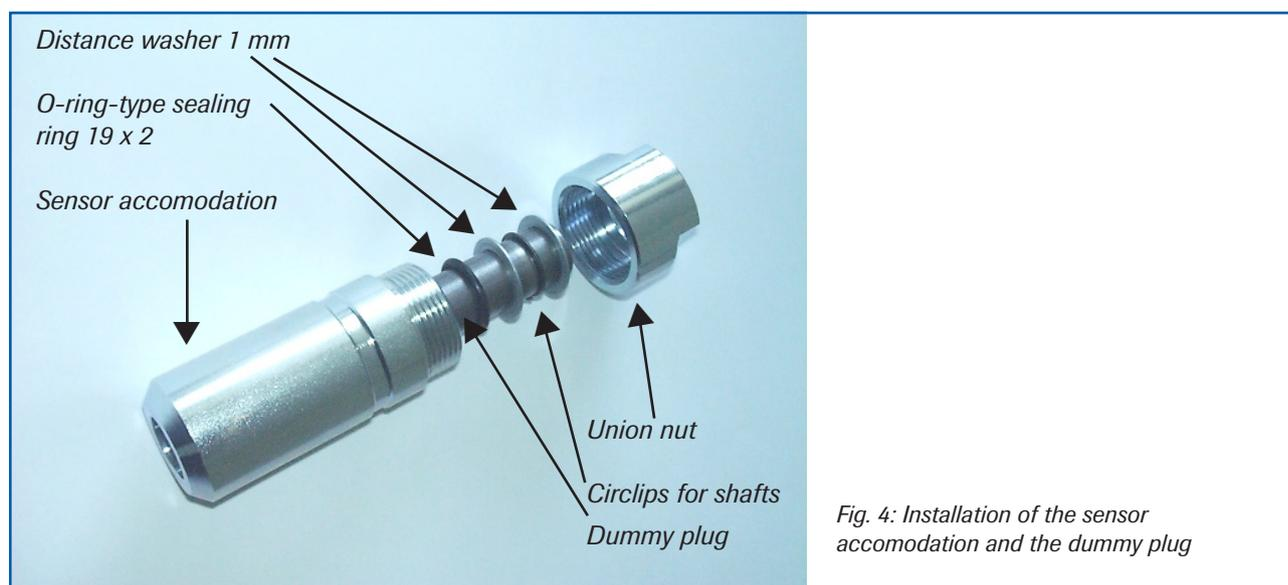

Fig. 4: Installation of the sensor accommodation and the dummy plug
- If the sensor is not installed immediately insert a dummy plug until it is installed (see also Fig. 4). The dummy plug must be inserted together with the seal, two sealing rings and the circlips for shafts and secured using the union nut. Use a 32 mm open-ended spanner to tighten the union nut.